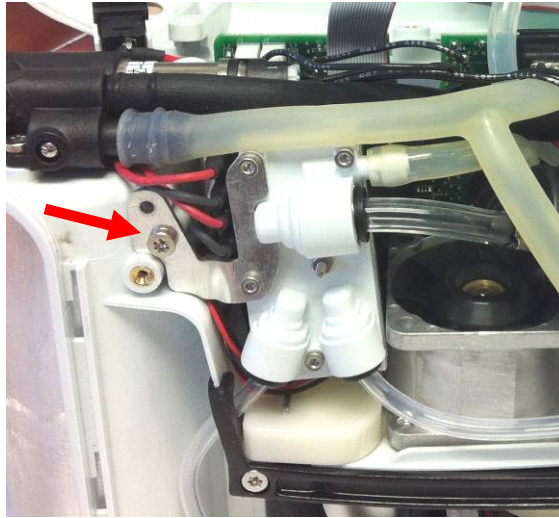

Figure 9: Manifold bracket screw
1. Remove the screw securing the manifold bracket to the chassis (Figure 9).
4. Replace the screw that connects the manifold bracket to the chassis (Figure 9). Tighten screw to 6 in-lbs.